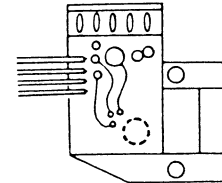

Fig. 2.10
- (1) When installing a new Laser Pickup Ass'y you must connect its three connectors (CN-101, CN-102 and CN-103) to the Servo P.C.B. Ass'y first.
- (2) Then using a grounded tip soldering iron only, remove the short-circuiting solder in the area of the dotted circle as shown in Fig. 2.10; this small P.C.B. which is incorporated with the Laser Pickup Ass'y.
NOTE: THE LASER PICKUP ASS'Y STOCKED AS SPARE PART, MUST BE SHORTED TO DOTTED CIRCLE OF THE SMALL P.C.B. WHICH IS INCORPORATED WITH THE LASER PICKUP ASS'Y AS SHOWN IN Fig. 2.10.